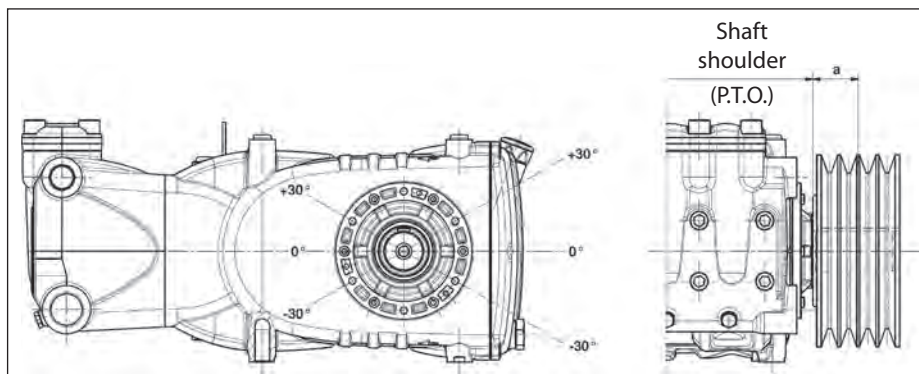

Fig. 10
(value necessary for Layout definition). The transmission is considered adequate if the load is applied to a maximum distance  $a=40$  mm from the shaft shoulder (P.T.O) as shown in Fig. 10.
- b) Use high performance belts – for example **XPB** instead of **SPB** – as a lower quantity of belts for the same transmitted power may be necessary and a consequent shorter resulting distance compared to the shaft shoulder (P.T.O) "a" of Fig. 10.